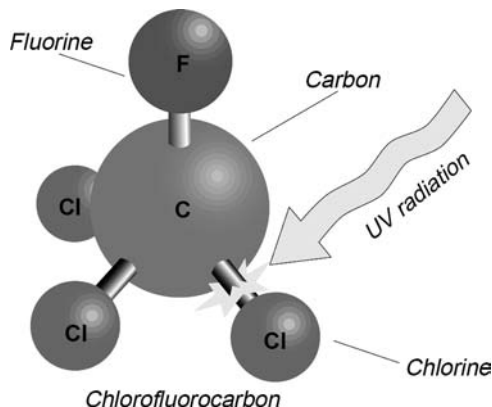

Figure 8.2
5. Destroying CFCs UV reacts with CFC molecules to release active chlorine atoms. Also see Figure 8.2.
In the stratosphere, CFCs and halons are destroyed by photolysis, light-induced destruction (Figure 8.2). The action of UV light frees highly reactive elemental chlorine from CFCs, and elemental bromine from halons. Elemental chlorine, after conversion to chlorine monoxide